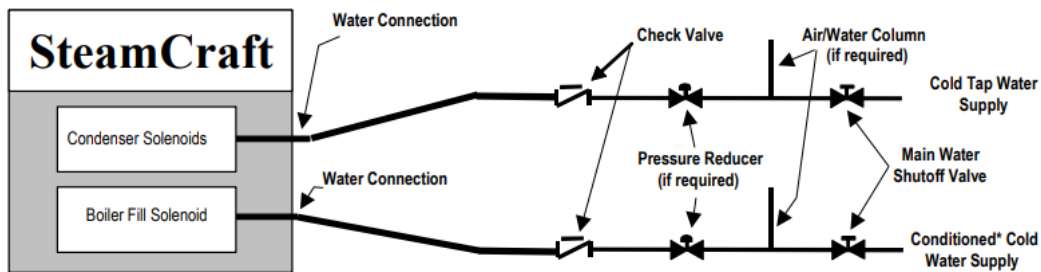

Figure 3-7 Cleveland Range Single Water Supply Arrangement when Using Separate Conditioned Feed Water Supply
- d) If the water supply fails to meet the requirements shown in the Warranty, then use the Separate Feed Water Supply Arrangement shown in Figure 3-7.